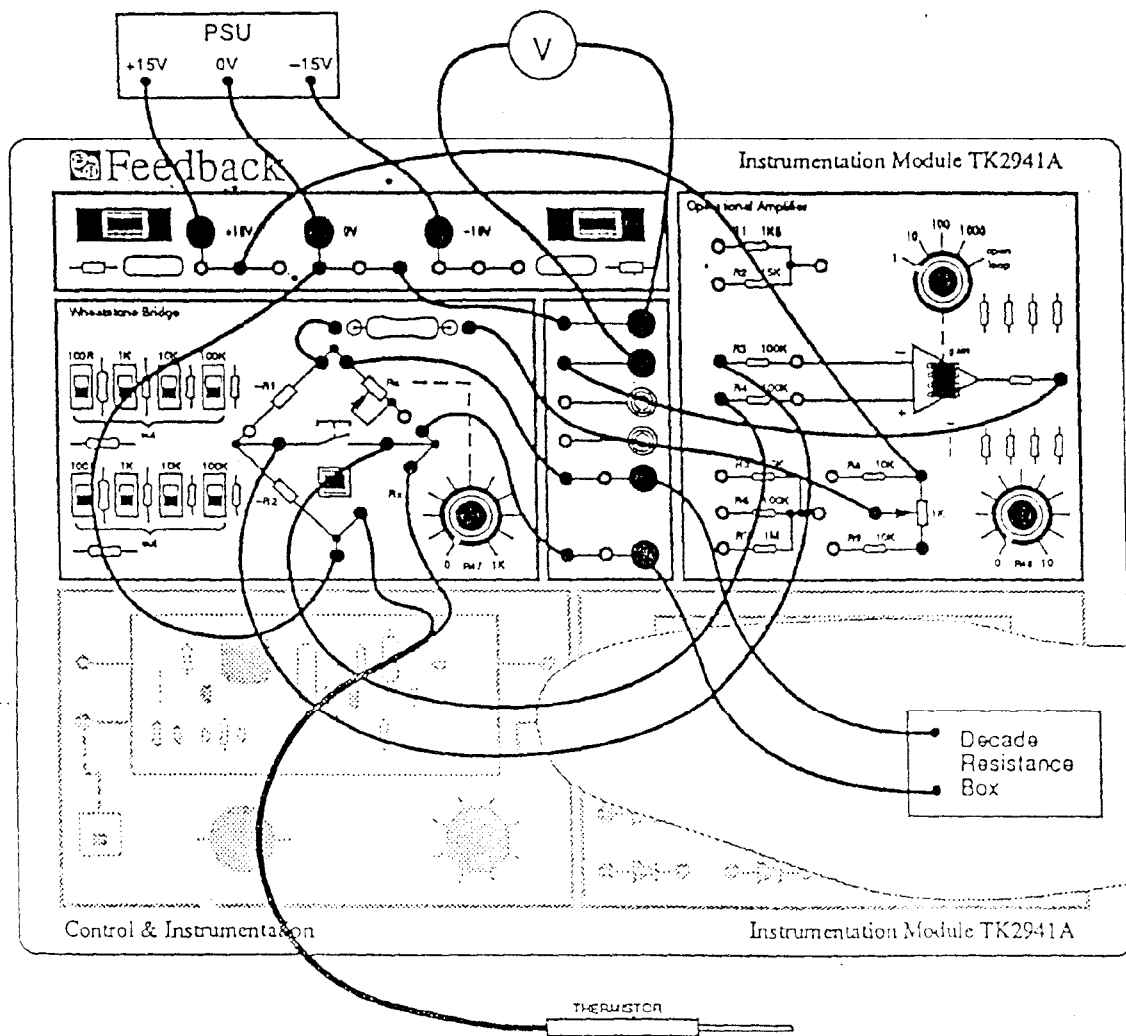

Figure 10-4
- 2) Set up the circuit as shown in figure 10-4. On the Wheatstone bridge set switches SW3 and SW6 'in' and all other switches 'out'